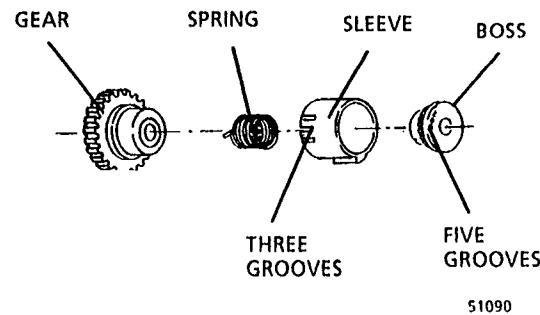

Figure 2. Removing the Boss, Spring, Sleeve, and Gear
2. (Figure 2): Remove the boss slowly, noting with which groove of the five grooves the spring is engaged.
NOTE (Figures 2 and 3): If the proper alignment is beyond the range of the last Boss groove, rotate the Sleeve one groove in the opposite direction from the previous rotations. Using another of the sleeve's three grooves, repeat the Check and Adjustment.